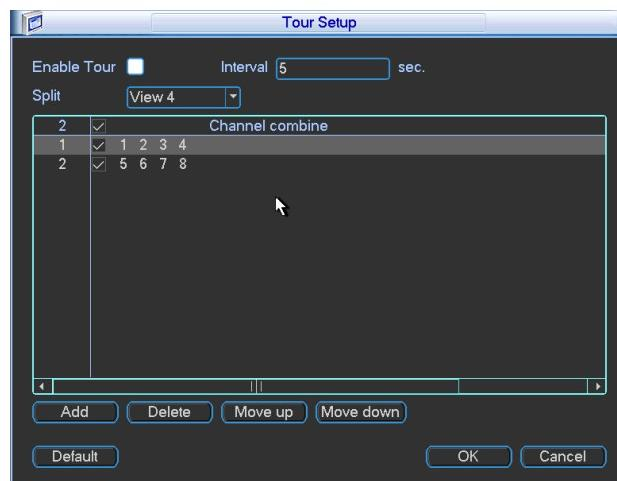

Figure 5-35
- Tour setup: Here you can activate tour function. Click Setup button, you can see an interface shown as in Figure 5-35.